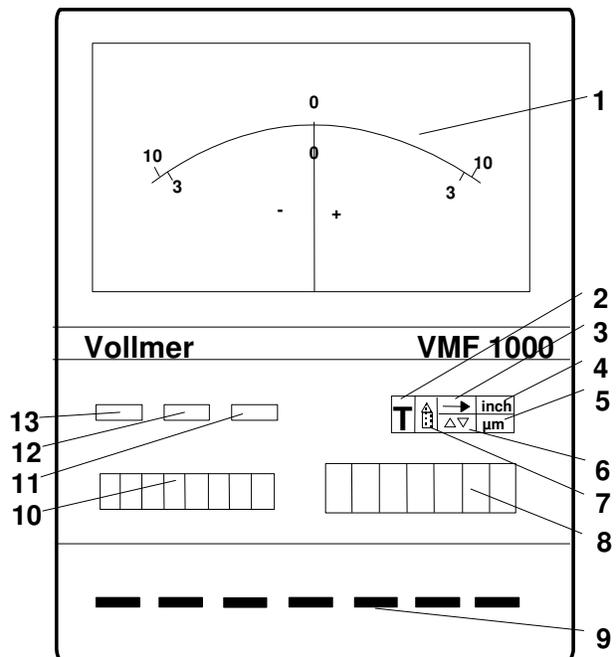
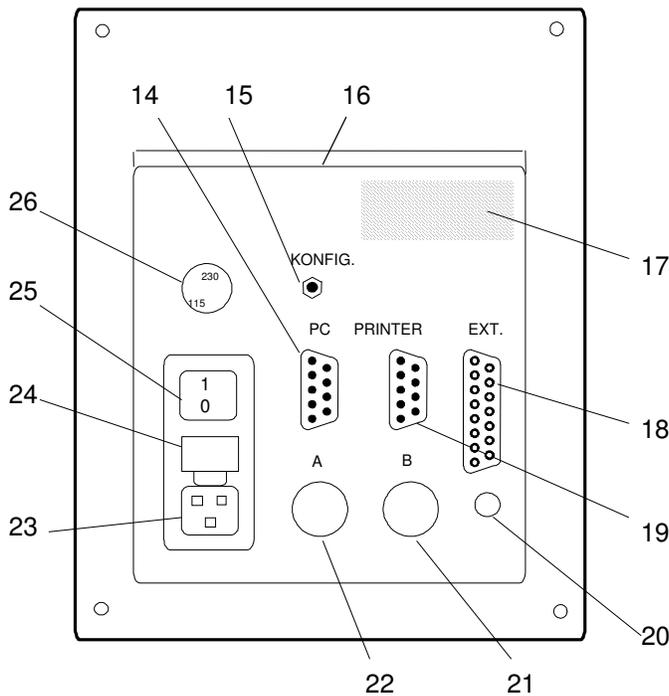

Fig. 1
Fig. 2
The lower function level (Setting/Configuration) is activated either by actuating the keys  and **SETTING** or by actuating the **Konfig.** key (cf. fig. 2 point 4) on the rear side of the instrument. The setting/configuration indicator (cf. fig. 1 point 6) starts to light up.
2. Select the right mains voltage (fig. 2 item 26) by means of a screw driver